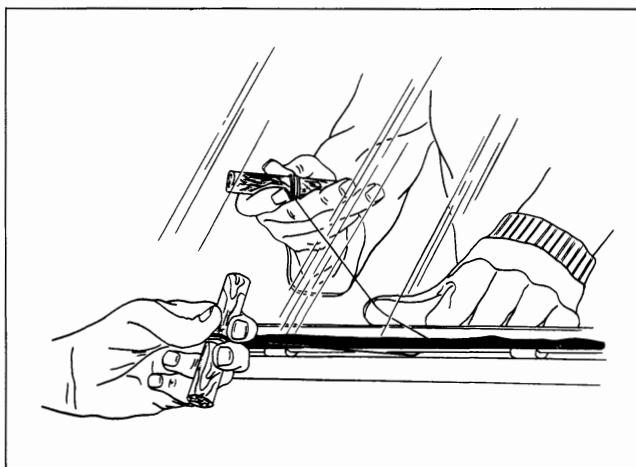

Fig. 13-12 Removal of Glass
2. Secure one end of steel music wire to a piece of wood that can serve as a handle. Insert other end of wire through caulking material at a lower corner of quarter window and secure that end to a second piece of wood (Fig. 13-12).